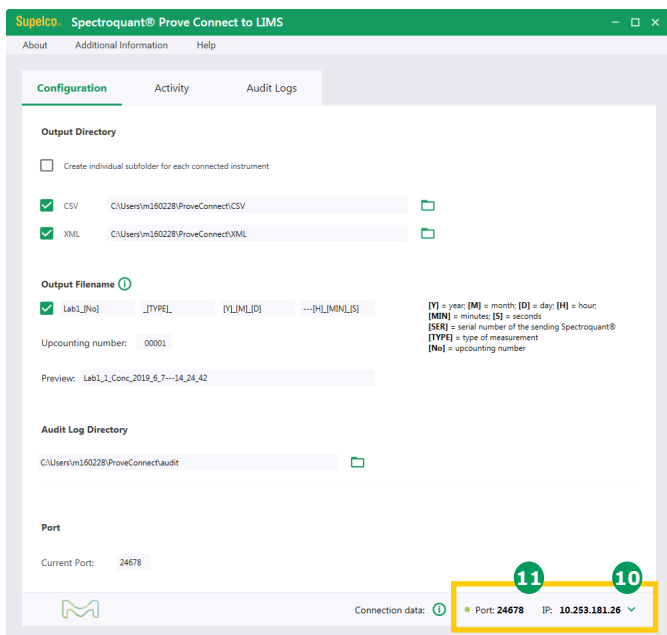

Figure 38 - Screenshot of Prove Connect for setup of network connection
- Enter the IP address 10 (Figure 38) into the instrument.
11. Enter the Port 11 (Figure 38) into the instrument.